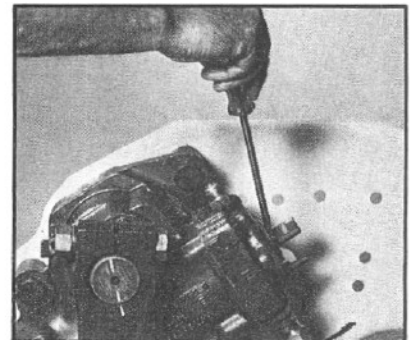

Figure 20
- 2.3 Remove and discard the dirt and water seal (4) (FIG. 20).